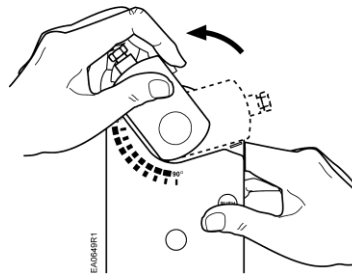

Figure 24.
- b. Hold down the **PUSH** button and rotate the shaft adapter to the left until it stops. See Figure 24.